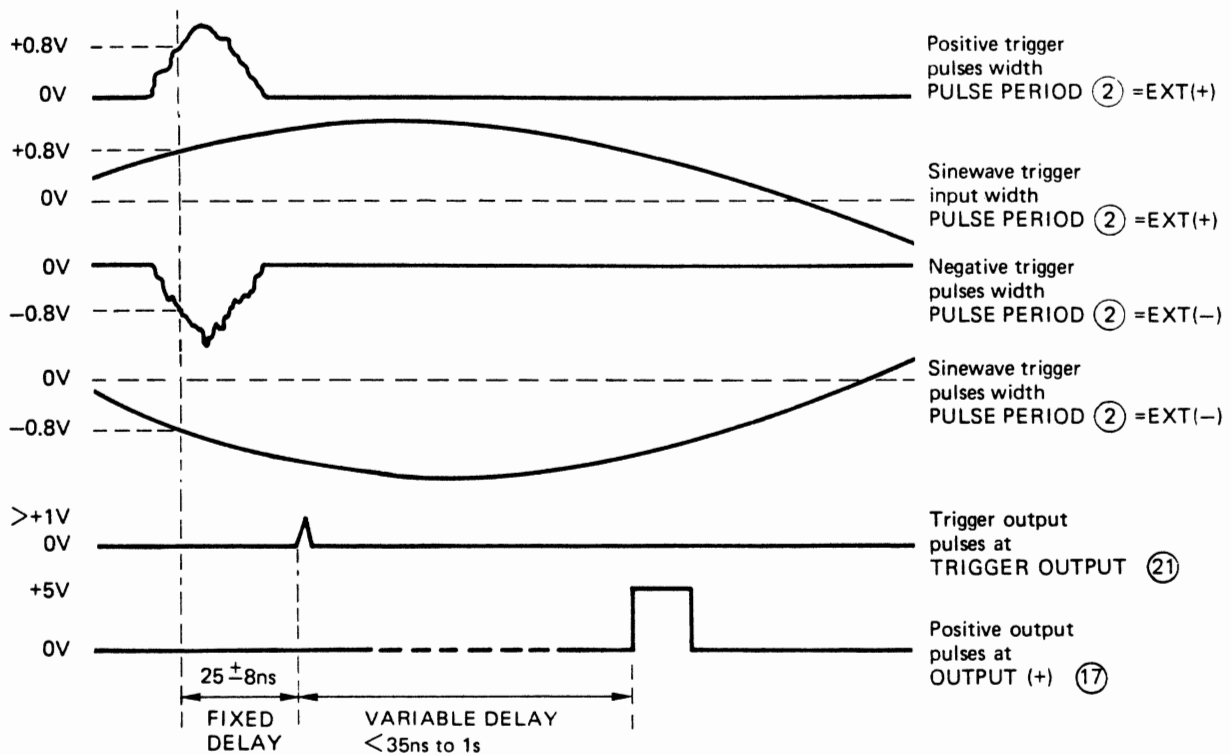

Figure 3-8. Output pulses in normal external trigger mode
3-21 The output pulses should appear at the TRIGGER OUTPUT (21) and OUTPUT (+) (17) connectors as shown in Figure 3-8, according to the applied trigger and the setting of the PULSE PERIOD control (2) (either EXT+ or EXT-).